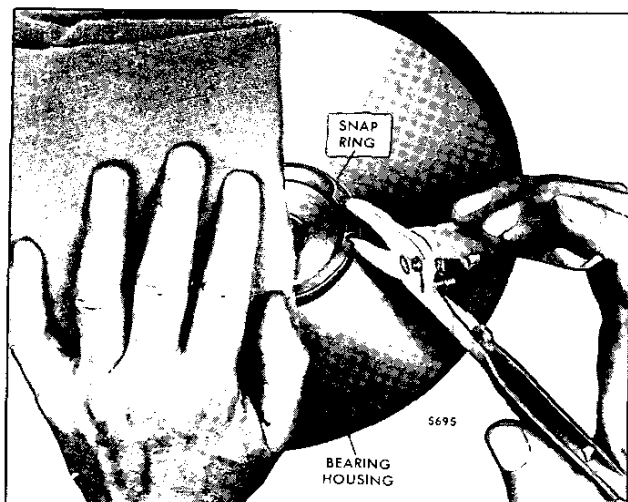

Fig. 7 – Removing External Snap Ring from Bearing Housing
7. Remove the external snap ring from the compressor end of the bearing housing (Fig. 7). Use medium size internal snap ring pliers and restrain the ring with a shop cloth to prevent injury, in the event the ring goes astray.
CAUTION: To prevent eye or facial injury, use a clean rag to snub the ring should it slip from the pliers during compression (Fig. 7).